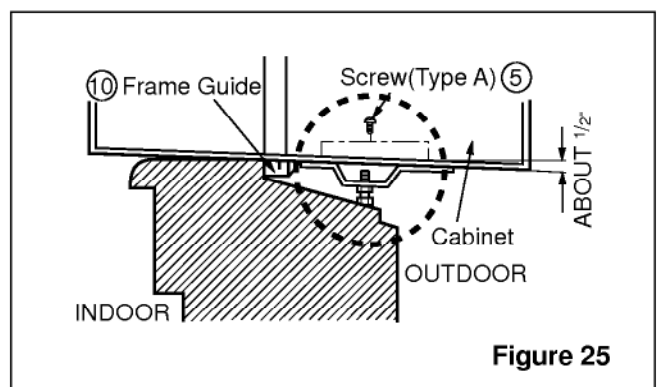

Figure 25
4. Select the position that will place the sill support near the outer most point on sill (See figure 25).
5. Attach the sill support to the cabinet track hole in relation to the selected position using the screws (Type A) (See figure 25).